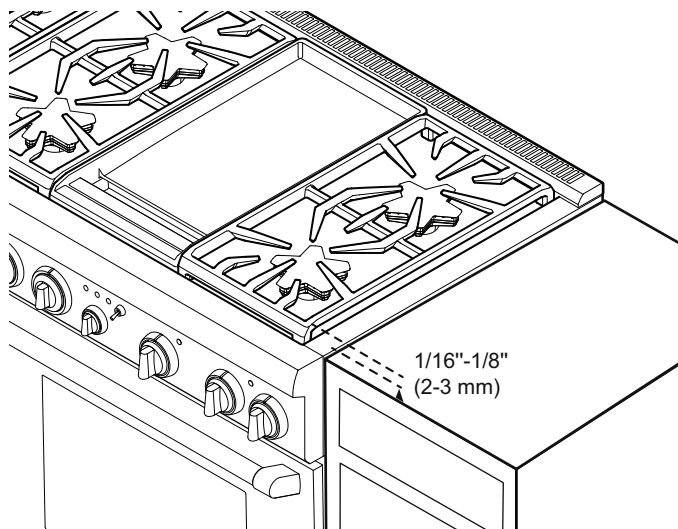

Figure 26: Adjusting the Height of the Range
The top edges of the range's side panels must be on the same or higher level as the adjacent countertop. **DO NOT** operate range if sides are lower than the adjacent cabinet. If the range is operated while at a lower height relative to the adjacent cabinet, the cabinet could be exposed to excessive temperatures, causing damage to the cabinet and countertop (see *Figure 26*).
1. Measure the countertop heights first with a tape measure and add an additional 1/16" - 1/8" (2-3 mm). Leveling legs should be adjusted so that the range sides are at the same or higher level as the adjacent cabinet. Adjust the legs accordingly prior to pushing the range back to its final location (see *Figure 26*).